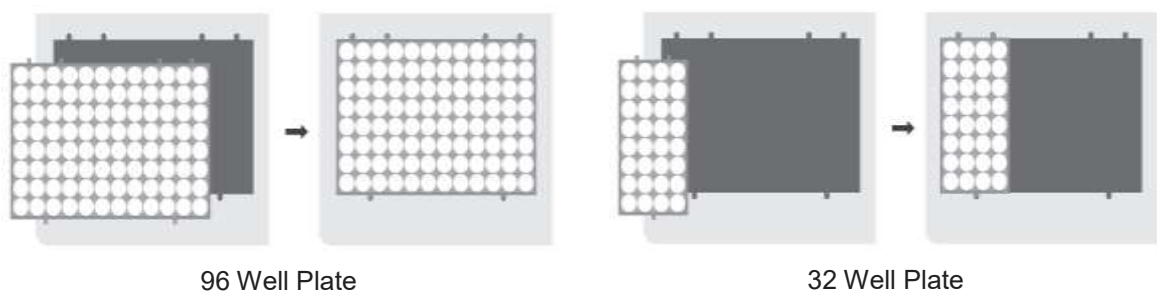

Figure 4: Positioning of the 96 or 32 well plates on the plate loader
7. Place the extraction plate on the plate loader. Note that the plastic cavities needs to fit in their position (Figure 4).